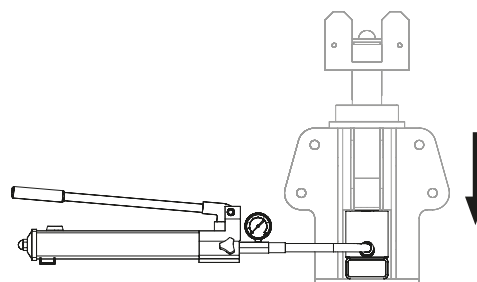

Fig. C2.02d
5. Release pressure from the hydraulic cylinder (**50.1**). (Fig. C2.02d)